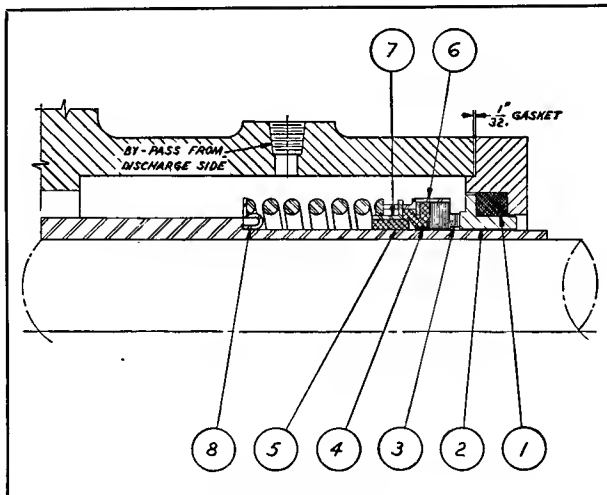

Fig. 14 — Crane mechanical shaft seal.
1. Crane Mechanical Shaft Seals (Fig. 14)